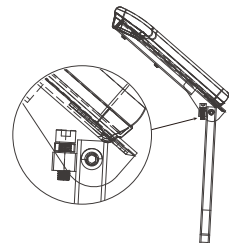

Figure 14 :
3. Adjusting the screws upward raises the armrests; adjusting downward lowers them(see figure 14) .